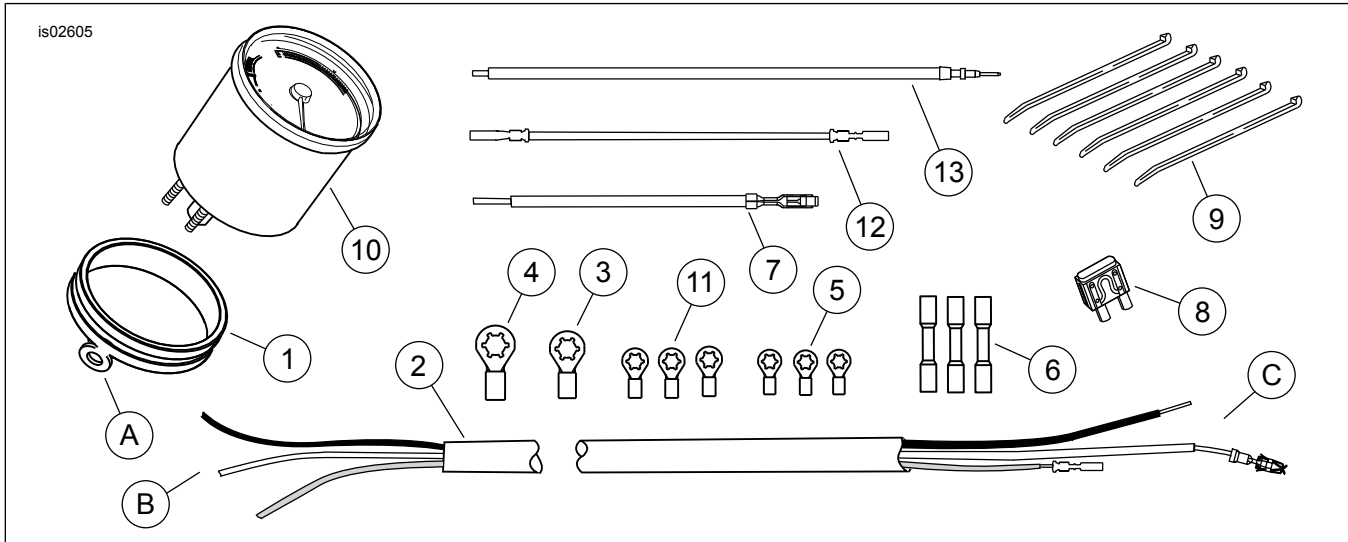

Figure 7. Service Parts, Mini-Tach Gauge Kit
3. See Figure 7. Install the 2 Amp fuse (8) from the kit into the P&A IGN fuse cavity to complete the circuit.